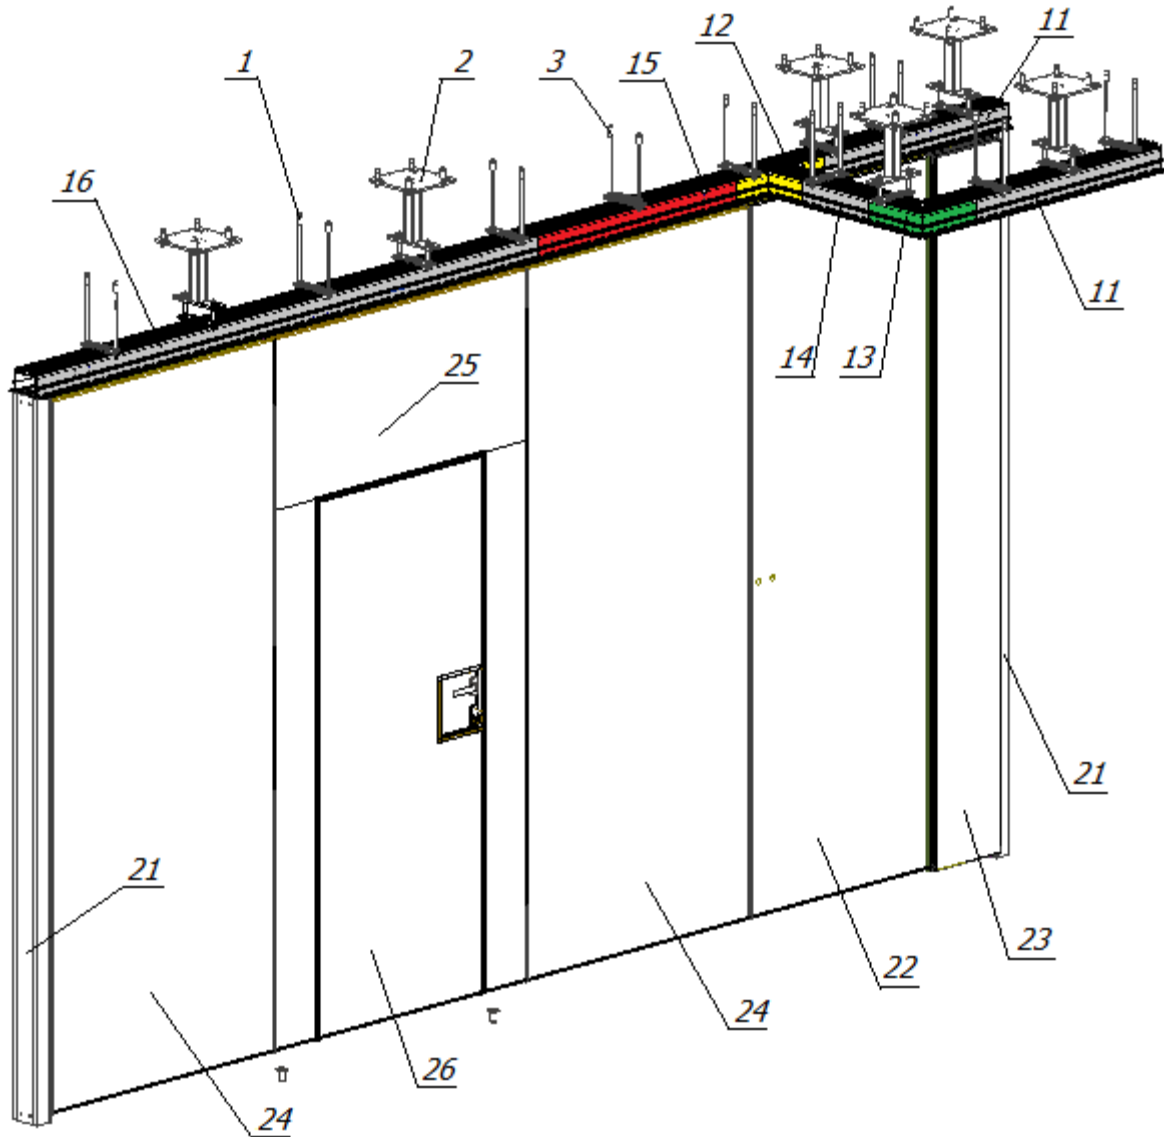

Fig.1. General diagram of a typical MAW110Plus mobile wall spread out with a parking rack (suspension of **2-point** panels)
- **2-point** modules are parked in a **parking rack** (Fig.1), with a spacing of:
- with the **2-point** suspension - with a parking rack (Fig.1)
The telescopic panel (22 in Fig.1) is **always** placed on the side of the parking rack
The telescopic panel (22 in Fig.1) is **always** placed **from the side of the panel parking place**, due to the greater number of slings in the track